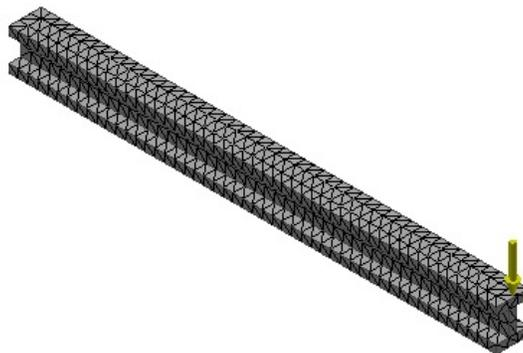

Figure 18-52 The meshed model with refined mesh settings
4. By default, the mesh settings will not be applied on the model. To apply the settings, select the **Mesh** node in the Design tree and right-click; a shortcut menu is displayed. Choose the **Update Mesh** option from the shortcut menu; the **Mesh** progress box is displayed. Once the meshing process is done, the new meshed model is displayed in the drawing area, as shown in Figure 18-52.